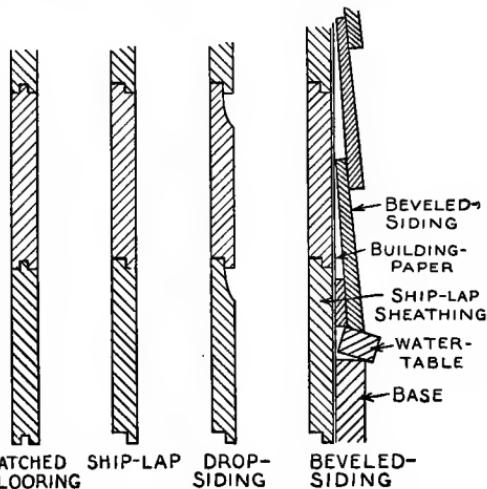

FIG. 11.
**Boarding up the Walls.** The framework may be boarded up, or *sheathed*, with *matched flooring*, *ship-lap*, *drop-siding*, or *beveled-siding* (Fig. 11).
openings. If siding is to be put on, a cap must be fastened on top of the base-board, for a *water-table* (Fig. 11). This strip must be beveled on top so as to shed water. The bottom strip of siding should be fitted on to this water-table.
the siding must be cut to fit between the trim boards, and be nailed in place. *Beveled-siding* (Fig. 11) comes  $5\frac{1}{2}$  inches wide, and is about  $\frac{1}{2}$  inch thick on one edge and beveled down to  $\frac{1}{4}$  inch thick on the other edge. Siding of the above width is customarily laid with  $4\frac{1}{2}$  inches exposed to the weather, which allows a lap of 1 inch. A block of wood  $4\frac{1}{2}$  inches wide should be used for a gauge for getting the same amount of lap on each piece.